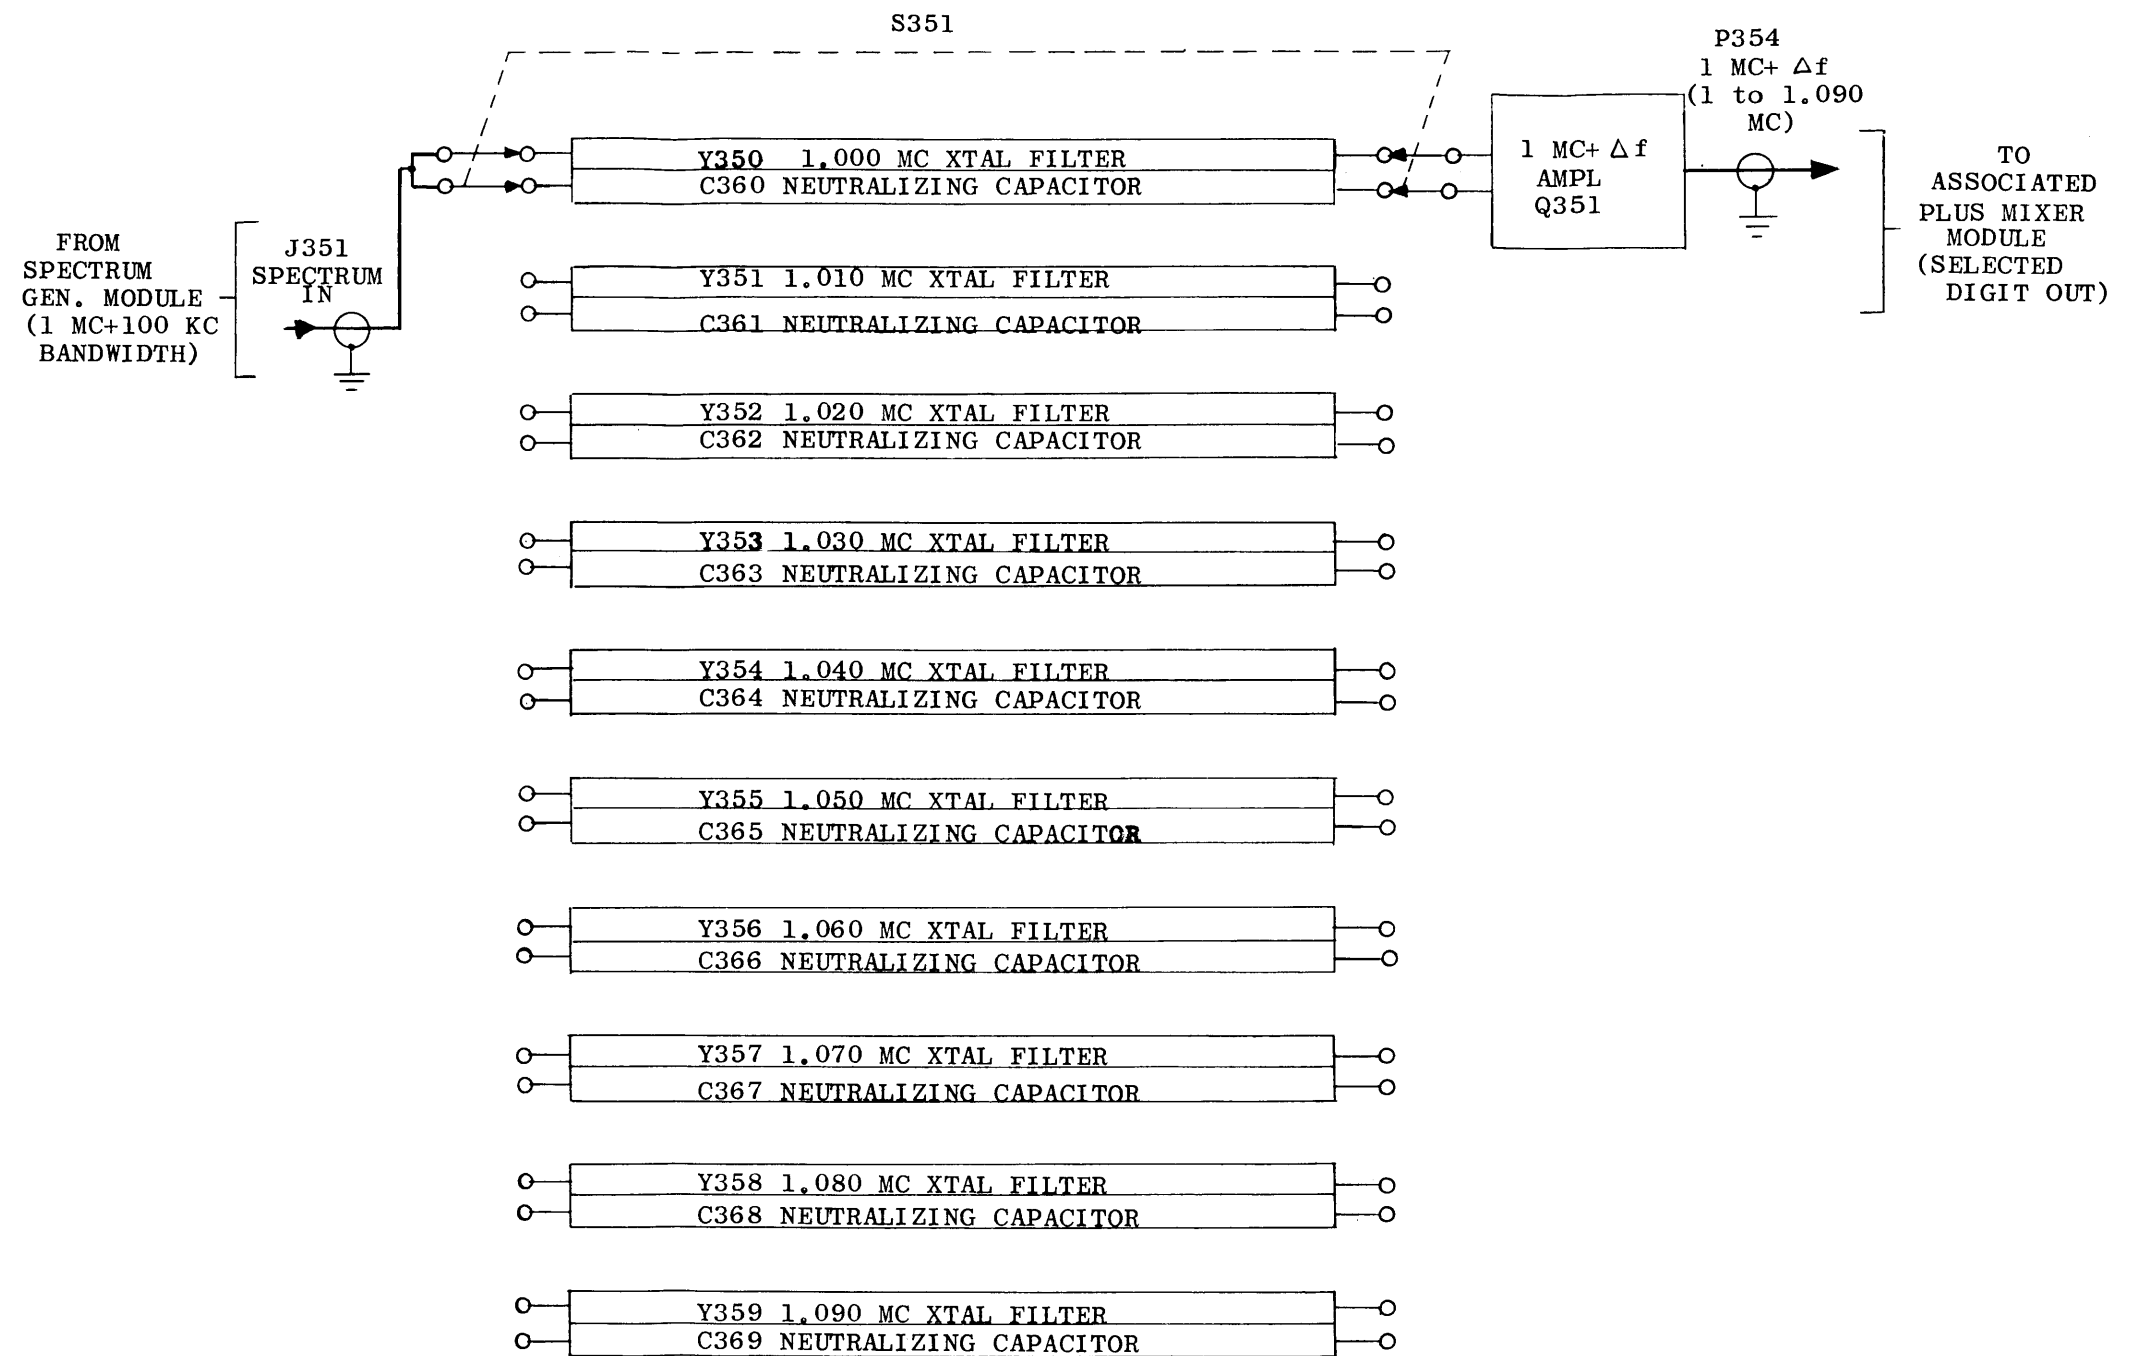

Figure 4-4. Spectrum Filter Assembly, Functional Block Diagram
c. SPECTRUM FILTER ASSEMBLY. - Figure 4-4 is a functional block diagram of a typical Spectrum Filter Assembly. There are five identical Spectrum Filter Assemblies in the LFSB synthesizer; each assembly receives the 1 megacycle signal with a 100 kilocycle bandwidth from the Spectrum Generator Module. Each spectrum filter assembly is equipped with 10 crystals (Y350 to Y359) and neutralizing capacitors C360 through C369. Capacitors C360 through C369 tune crystals Y350 through Y359 respectively in 10 kilocycle increments between the frequencies